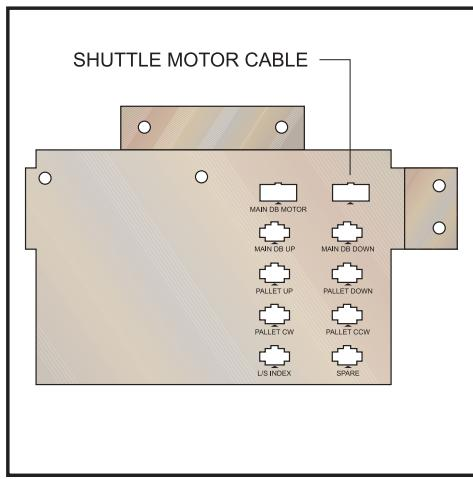

Figure 3.8-7.
22. Disconnect the tool changer's shuttle motor cable connector, behind the rear access panel on the control box side of the machine. See Figure 3.8-7.